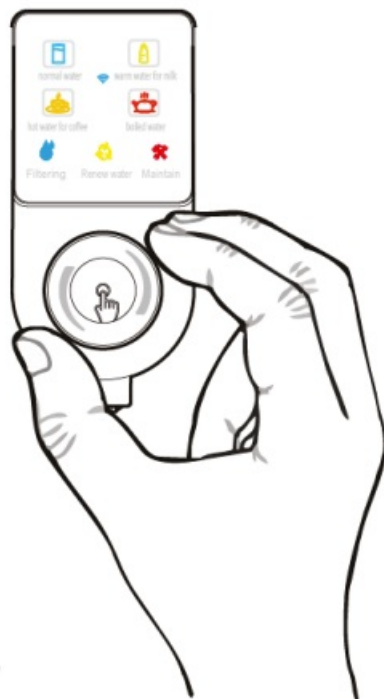
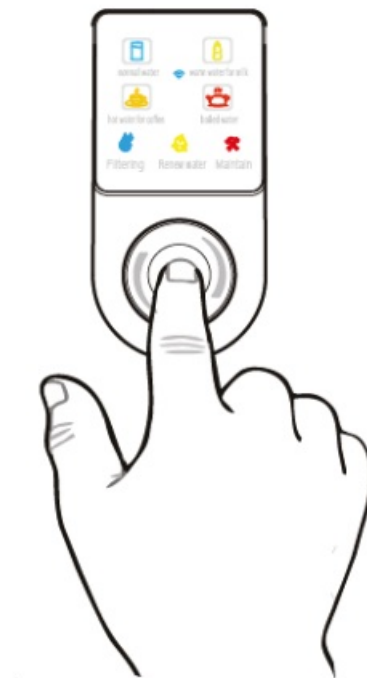

FIGURE 3
FIGURE 4
- Place the water container on the tray (see Figure 1). Rotate the knob to select the desired water temperature (Figure 3), and then click on (or push on for 3 second) the middle part of the knob (see Figure 4) to dispense one cup (or bottle) of water. Click the knob again if you want to stop getting water. Note: the system will automatically stop water after 30 seconds if you do not click the knob and will automatically stop after 60 seconds if you hold the button for 3 seconds.